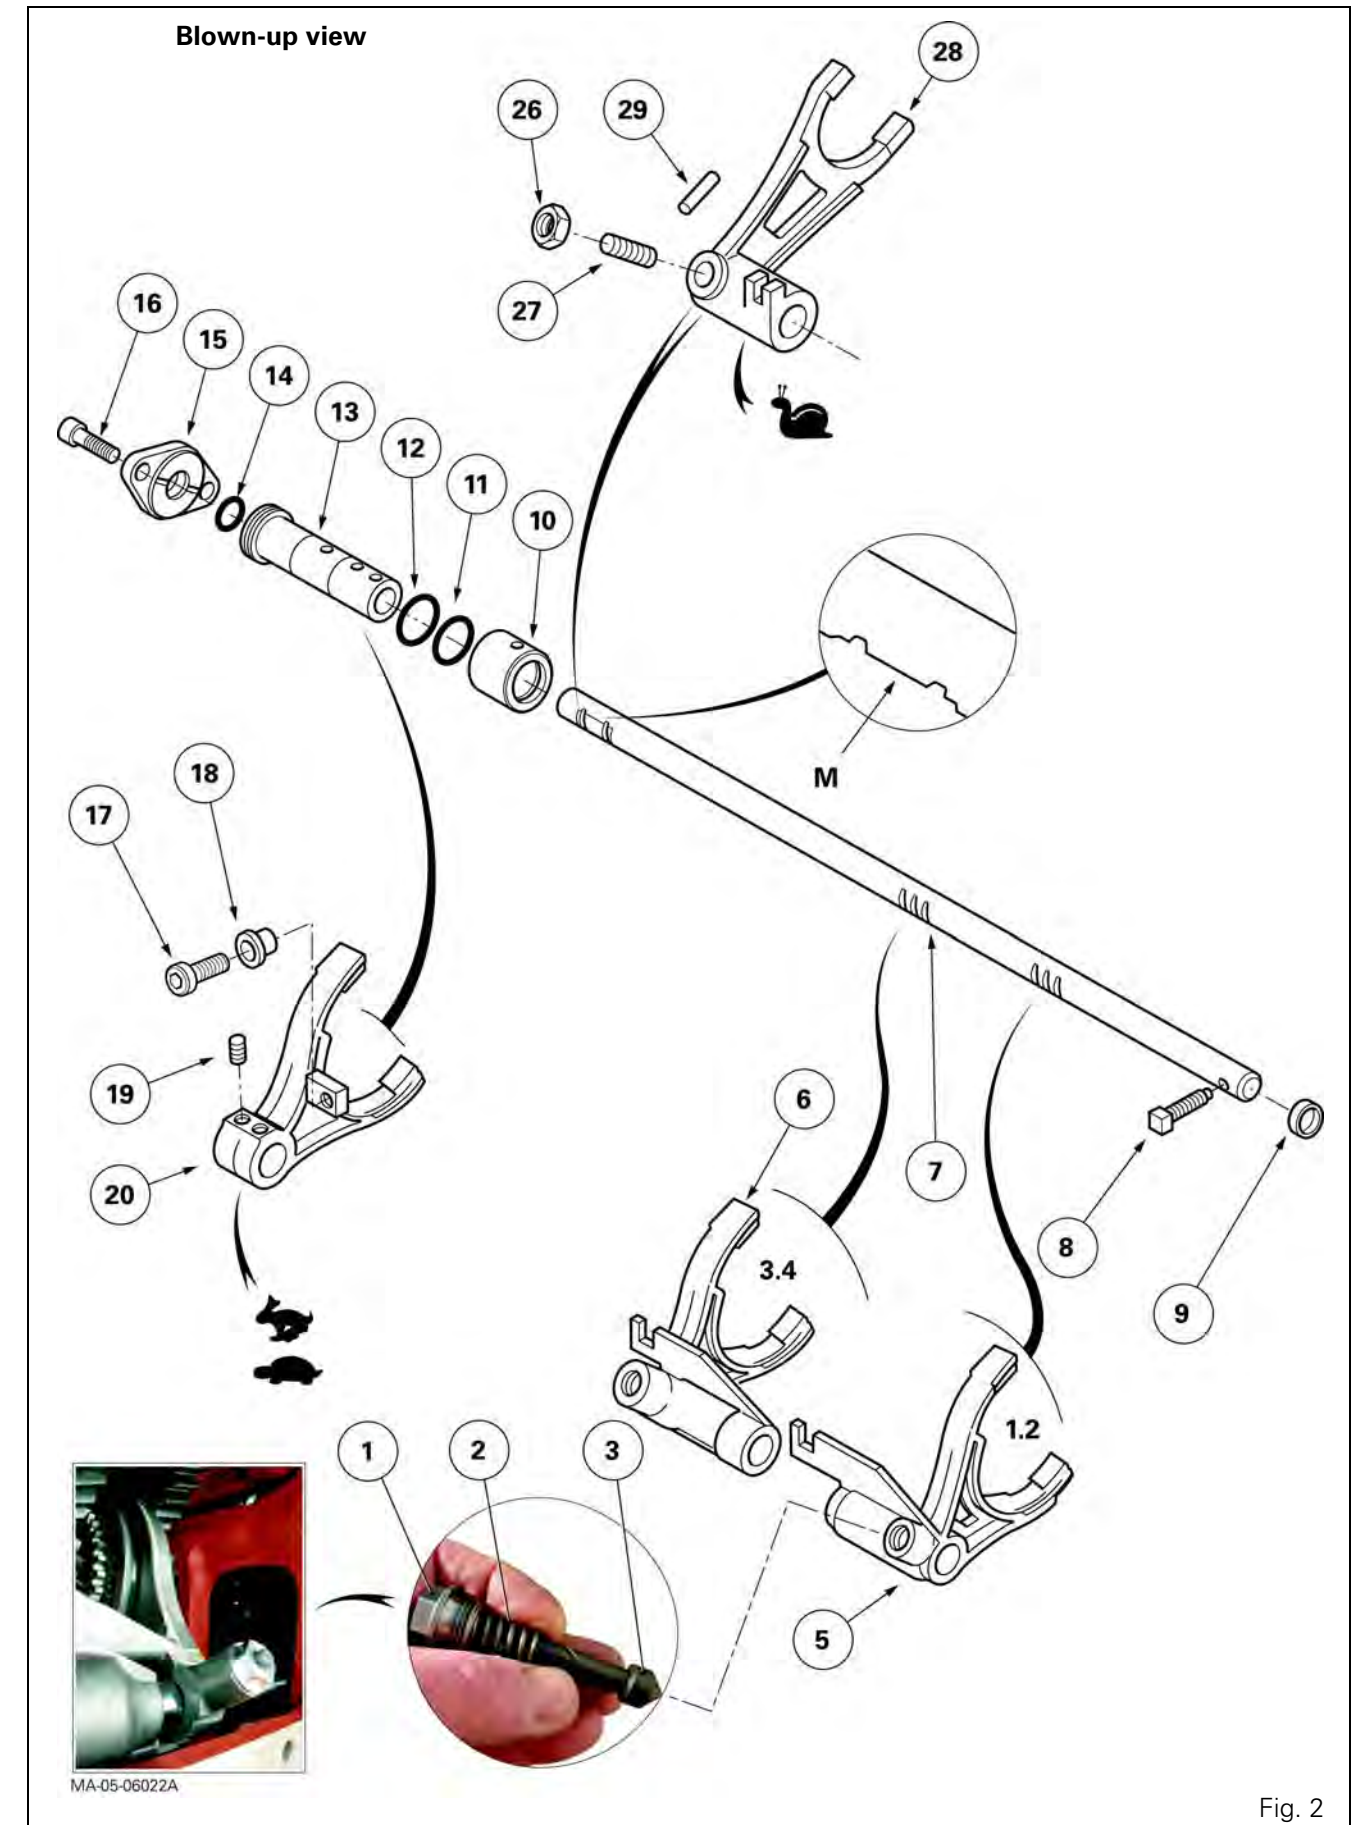

Fig. 2
Parts list (Fig. 2)
3. Remove the selector cover plate (see chapter 5). Take out the plugs (1), the springs (2) and the detent plungers (3) to release the selector rail (Fig. 2).
28. Clean the set screw (8). Smear its thread with Loctite 542 and tighten to a torque of 38 - 43 Nm.
29. Ensure that the ball bearing fitted at the end of the locking screw (27) returns correctly to its initial position after pressure has been applied manually by the locking screw. Position the fork (28) and locking screw on flat section "M" of the selector rail (7) (between the two locking slots (Fig. 2)